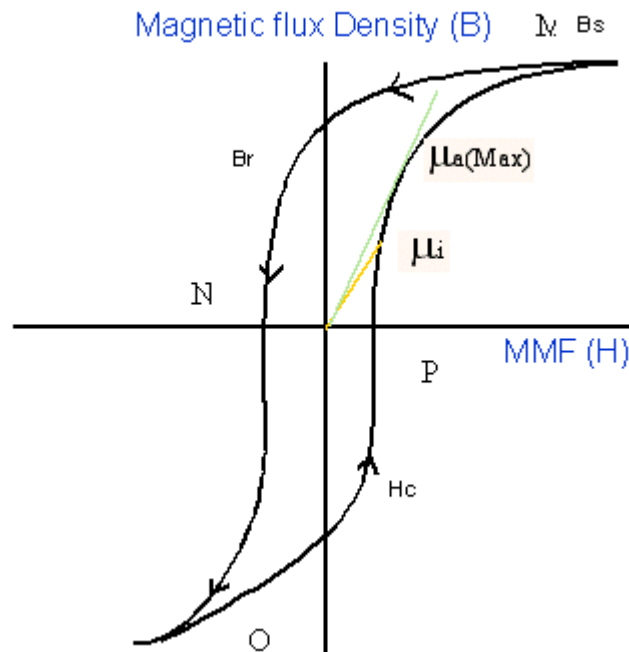

Figure 106: Calculating Magnetics
Magnetic Field Strength (H): The Figure 106 shows the hysteresis in a typical magnetic material. The magnetic field induces a magnetic flux in the DUT. The units of measurement are Ampere/mtr in SI unit and Oerstead in CGS unit.